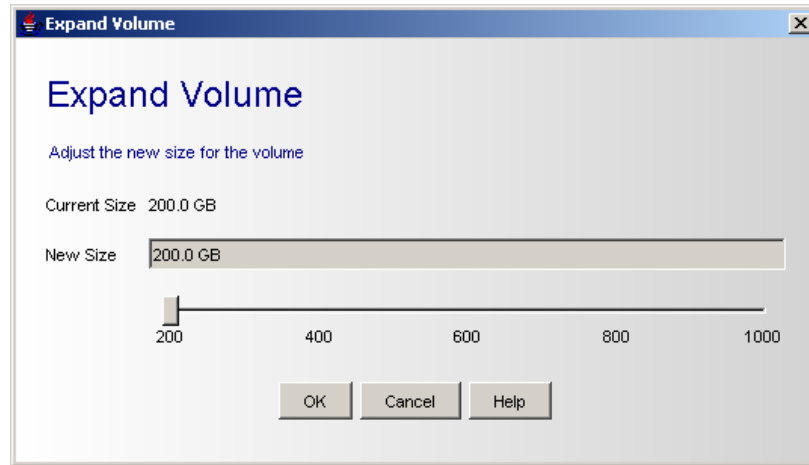

Figure 5-15 Expand Volume Dialog Box
2. On the **Storage** menu, click **Expand Volume**. The Expand Volume dialog box appears (see Figure 5-15).